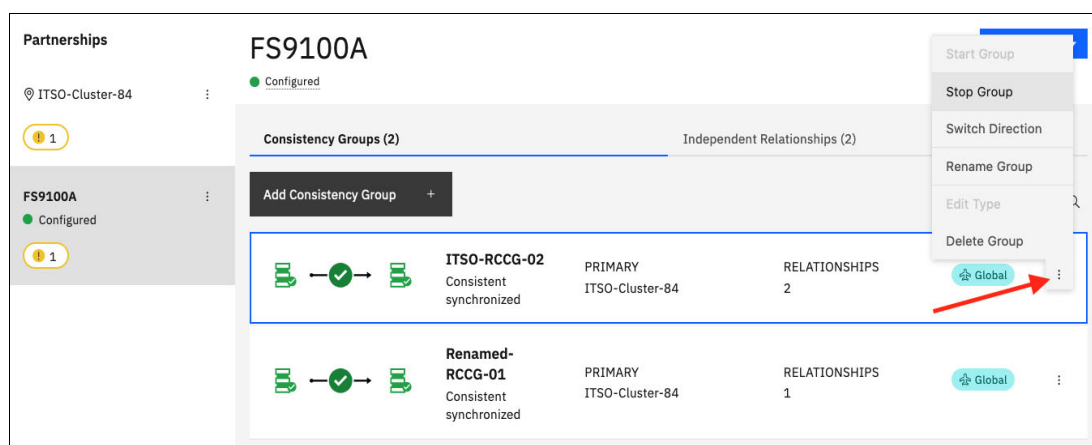

Figure 10-143 Stopping a consistency group
- Select the target RC system and go to the **Consistency Groups** tab. Click the three dots on the consistency group to be stopped and select **Stop Group**, as shown in Figure 10-143.